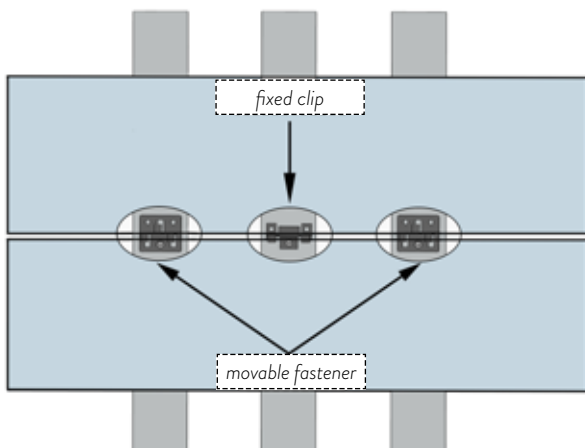

Figure 11
- 2 Fastener layout sketch. As shown in Figure 11: